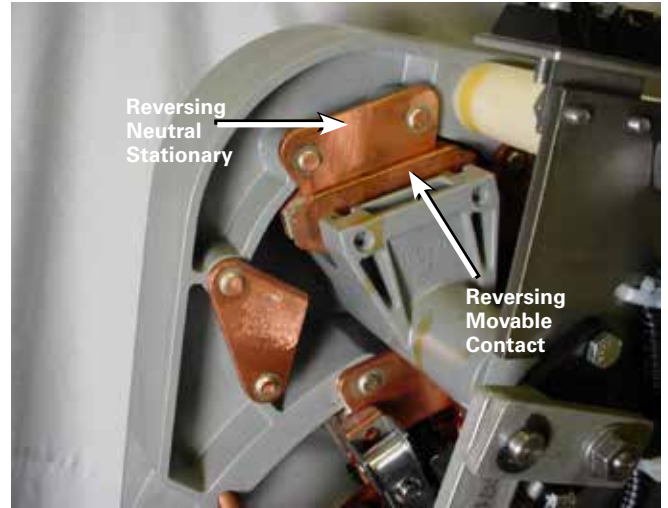

Figure 93. Neutral position for reversing movable contact.
- B. The reversing movable contact is located on the reversing neutral stationary contact. See Figure 93.